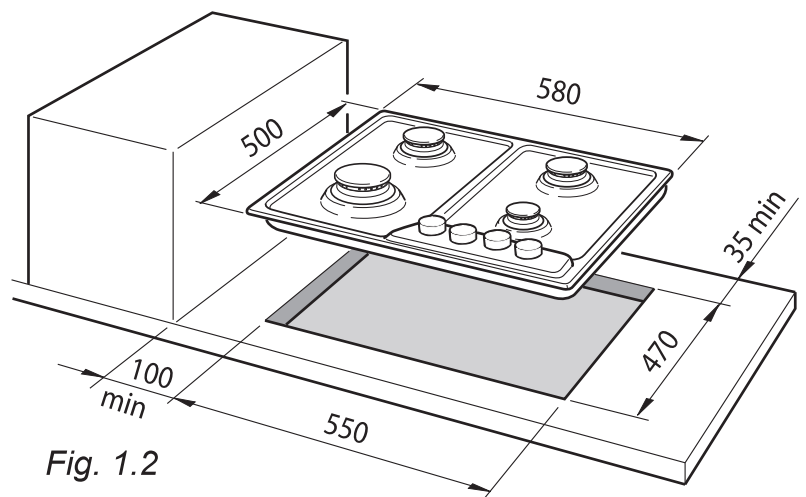

Fig. 1.2
In order to install the cooker top into the kitchen fixture, a hole with the dimensions shown in fig. 1.2 has to be made, bearing in mind the following:
- the cooker top must be kept no less than 100 mm away from any side wall (fig. 1.2);